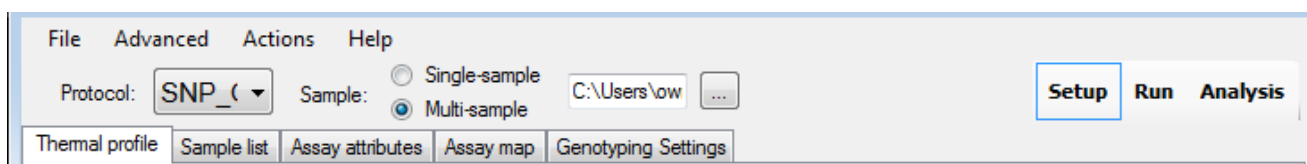

Figure 56. Selecting the protocol for your pre-dispensed SmartChip Custom Panel.
- If your SmartChip Panel contains multiple samples that were loaded using the SmartChip ND, click the **Multi-sample** radio button next to “Sample”. Then click the button labeled [...] to open the *Open* dialog box and navigate to the location of the SmartChip Layout file (.pd extension) from the SmartChip ND for your chip. (You will likely access the SmartChip Layout file on a USB memory stick or across a network.) Select the file and click [Open] to accept your choice and close the window (Figure 56).